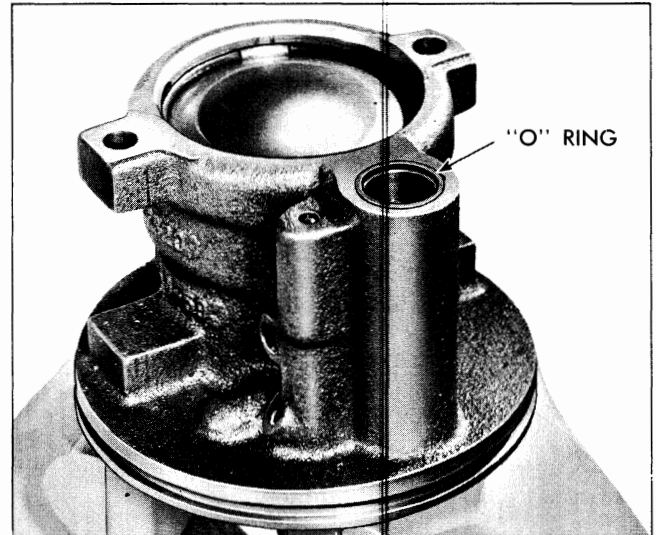

Fig. 9A-49 Housing To Reservoir "O" Ring in Position
14. Lubricate and install new housing to reservoir "O" ring (rectangular section seal) at outlet pressure cavity (Fig. 9A-49).